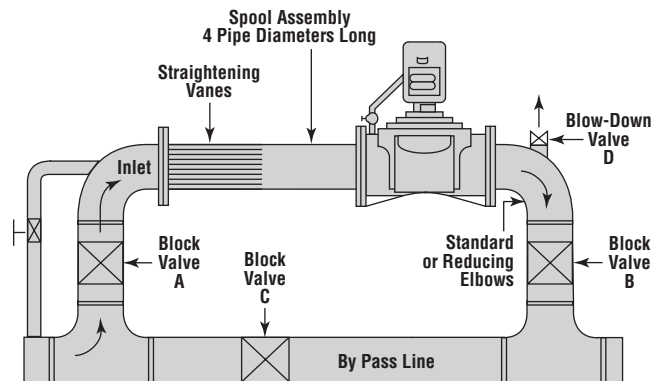

Figure 5
- An installation of a by-pass line around the meter is recommended for all piping configurations (refer to figure 5.)
Provision for a controlled pressure blow-down of the meter run should be made. The blow-down should be located between the meter outlet flange and the downstream block valve (shown in figure 5). While Turbo-Meters can be operated up to 150 percent of maximum rated capacity for short periods of time with no damaging effects, over-sized blow-downs can cause speeds greatly in excess of this amount. On inside meter sets, blow-down should not be sized larger than one-sixth the meter size as described in the following table:
Start-Up (Refer to Figure 5)
On high pressure installations, a valved bypass around the inlet riser block valve ("A" in Figure 5) is recommended. Usually constructed of 3/4" pipe, with a needle-type valve, the by-pass permits pressurizing of the meter run without damaging the meter. Once the inlet pressure has been achieved, as indicated by lack of any registration on the meter, the needle valve is closed and Steps #2, #3 and #4 in start-up procedure should be followed.
Shut Down (Refer to Figure 5)